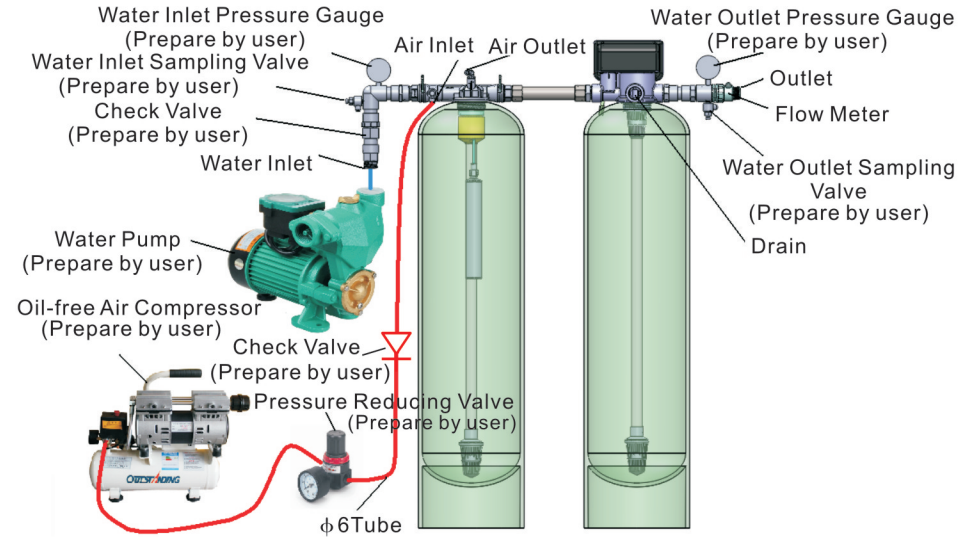

Figure 1
As Figure 1 shows (back view of system), connect aeration tank, filter tank as well as other accessories(For reference only):
B. Adjust the compressed air pressure reducing valve, it would be better to let inlet air pressure (check the pressure gauge as shown in Figure 1) be 0.05Mpa lager than inlet water pressure (check the water pressure gauge as shown in Figure 1).